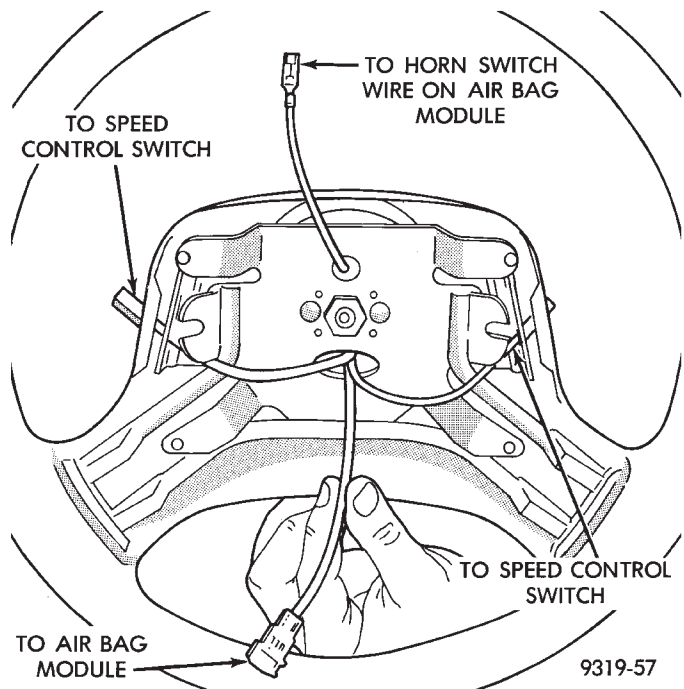

Fig. 33 Wire Routing Through Steering Wheel
(29) Align master splines on steering wheel and steering column shaft. Then install steering wheel on steering column shaft routing wiring through steering wheel as shown in (Fig. 33). Install steering wheel to steering column retaining nut, tighten nut to draw steering wheel onto steering column shaft. Then tighten the steering wheel to steering column retaining nut to a torque of 61 N·m (45 ft. lbs).